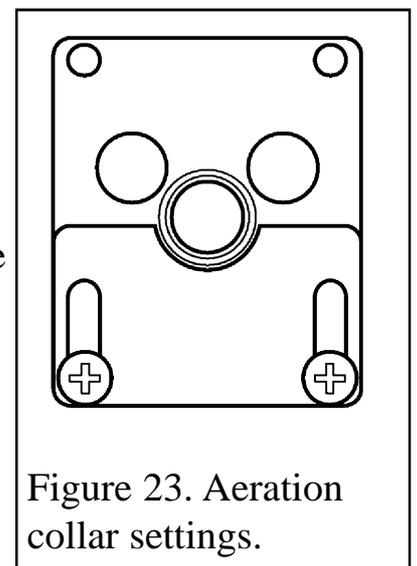

Figure 23. Aeration collar settings.
1. The aeration shutter is factory set. It is important to ensure that the aeration setting is correct (See figure 23).
2. To adjust the aeration setting, loosen the two aeration shutter screws, slide the aeration shutter to the position shown in figure 23 and tighten the fixing screws.